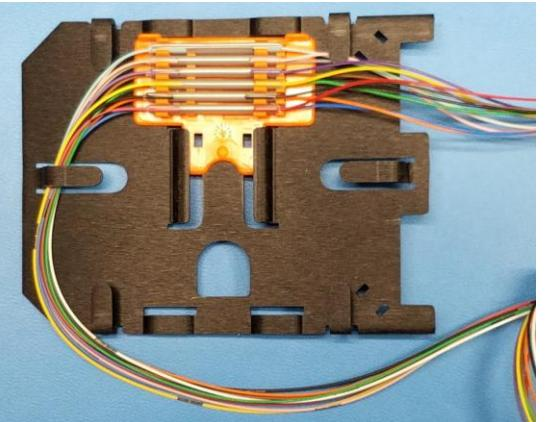
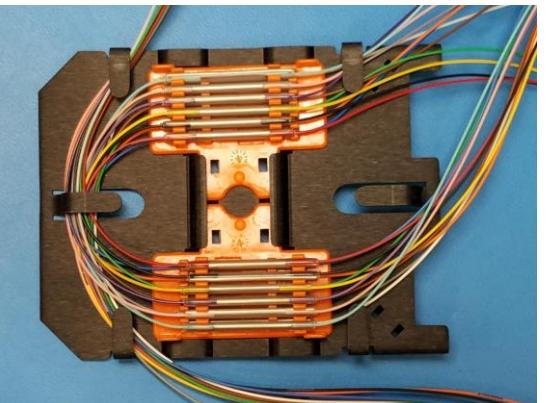

Figure 10
Figure 11
- 4.5 Install the Splice Chip for fibers 13-24 first as shown in **Figure 10**. Route the fibers underneath the retention organizers near the fiber exit points of the Splice Chip. Install the chip for fibers 1-12 as shown in **Figure 11**.